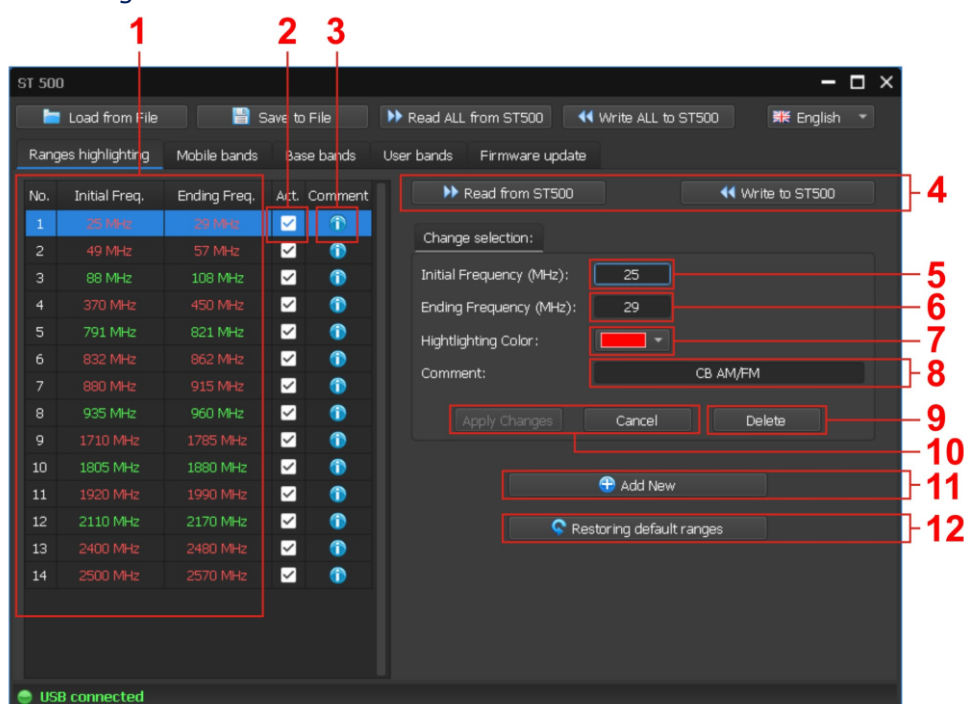

Fig.49
The mode is activated by selecting the "RANGES HIGHLIGHTING" tab. The screen upon mode activation is shown in fig.49.
In fig.49:
- initial (lower) and/or ending (upper) frequency band (fig.49, 5, 6)
- highlighting color (fig.49, 7)
- comment (fig.49, 8)
- on/off activity checkbox (fig.49, 2)
- lower and upper frequency bounds (fig.49, 5,6)